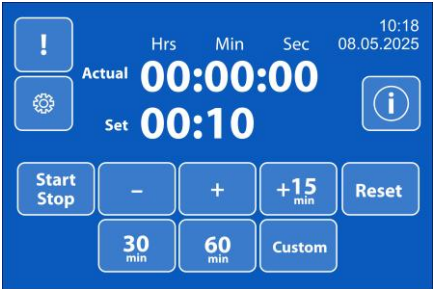

Figure 4. Main display screen
5.2. Main display screen (figure 4).
5.3.1. On the main screen (figure 4), set the timer. The buttons do the following: